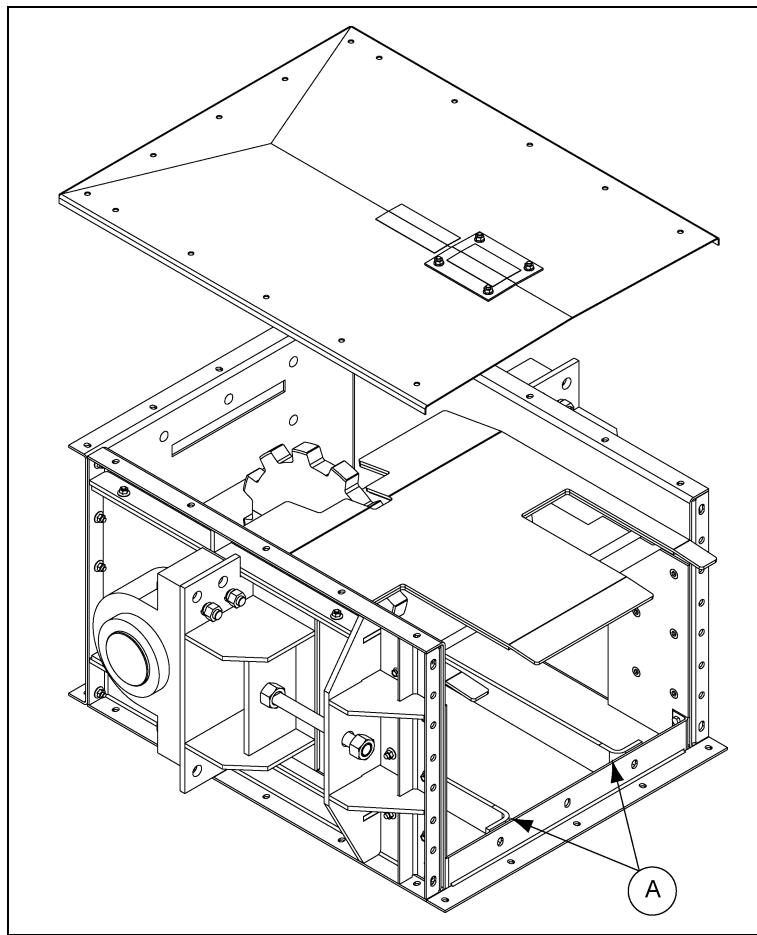

Figure 10F Reversing Take-Up Head with Carry-Over Bars
On reversing conveyor applications, carry-over bars (A) should be installed in both discharge assemblies. These bars help ensure a smooth transition of the chain and flights from the head discharge into the conveyor box. (See Figure 10F on Page 49.)